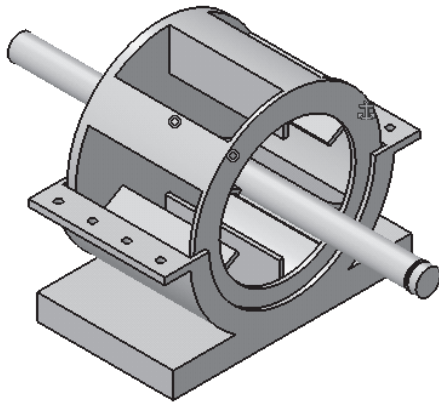

Figure 11-73 Motor Shaft inserted at its default location
1. Insert the Motor Shaft into the assembly file. By default, it is placed in the middle of the existing assembly, as shown in Figure 11-73. You need to move it out of the assembly to get a better view of the shaft.